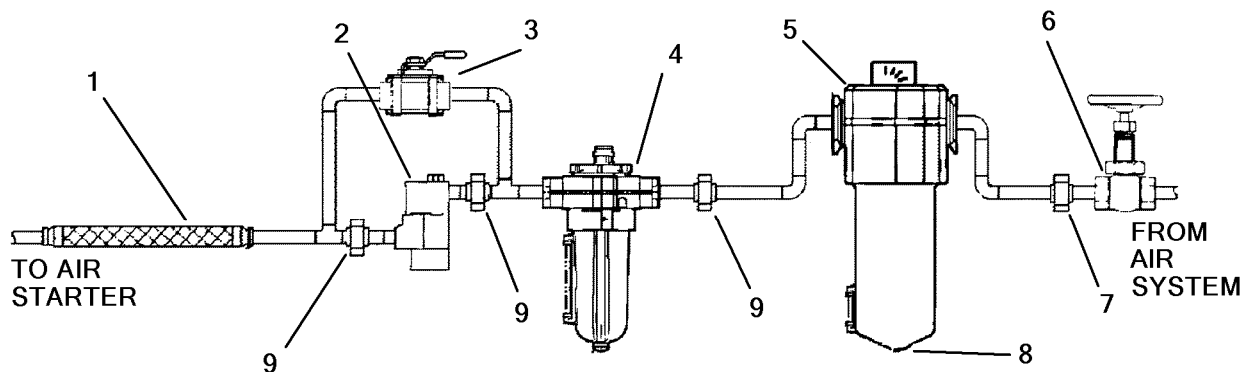

FIGURE 2-8A. Air Start Piping Group.
2-14.1. Repair Engine Air Start Piping Group. (FIGURE 2-8A)
- a. Close supply globe valve (6, FIGURE 2-8A).
- b. Place pail under drain valve (8) of coalescer filter (5). Slowly open drain valve (8) on bottom of coalescer filter (5) to relieve pressure in piping group and drain fluids.
- c. Slowly loosen coupling (7) to relieve residual pressure in piping group.
- d. Removal of filter coalescer (5), lubricator with sight glass (4), air start relay valve (2), bypass ball valve (3) and flexible hose assembly (1) is by removing associated piping, brackets and couplings (9).
- a. If removed install coalescer filter (5, FIGURE 2-8A), lubricator with sight glass (4), air start relay valve (2), bypass ball valve (3) and flexible hose assembly (1) with associated piping, brackets and couplings (9).
- b. Tighten coupling (7).
- c. Refill lubricator (4) with SAE 30W oil, as required.
- d. Open supply globe valve (6). Check for air leaks, correct as necessary.